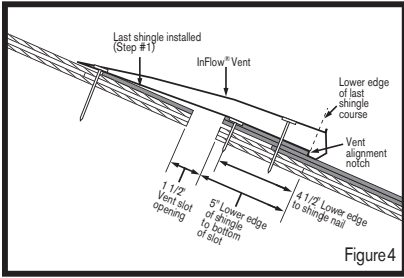

Figure 4
Step 6: Position the first InFlow® Vent flush with the rake edge, aligning the vent so the alignment notch is even with the lower edge of the last shingle course installed. See Figure 4.